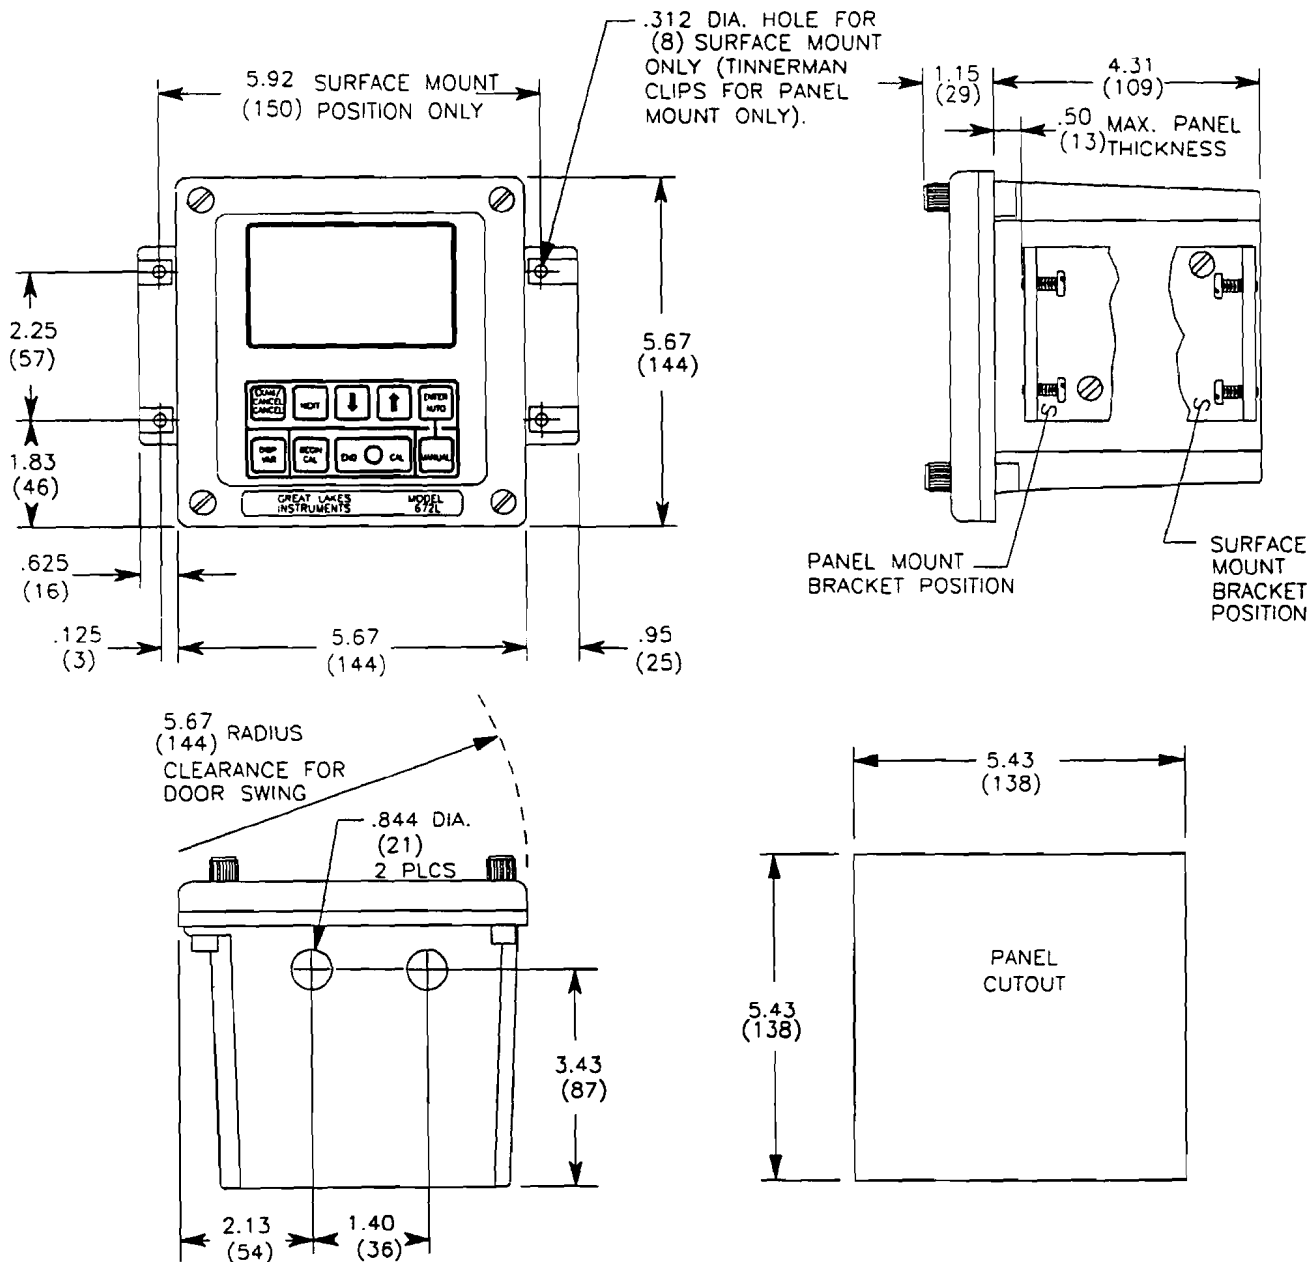
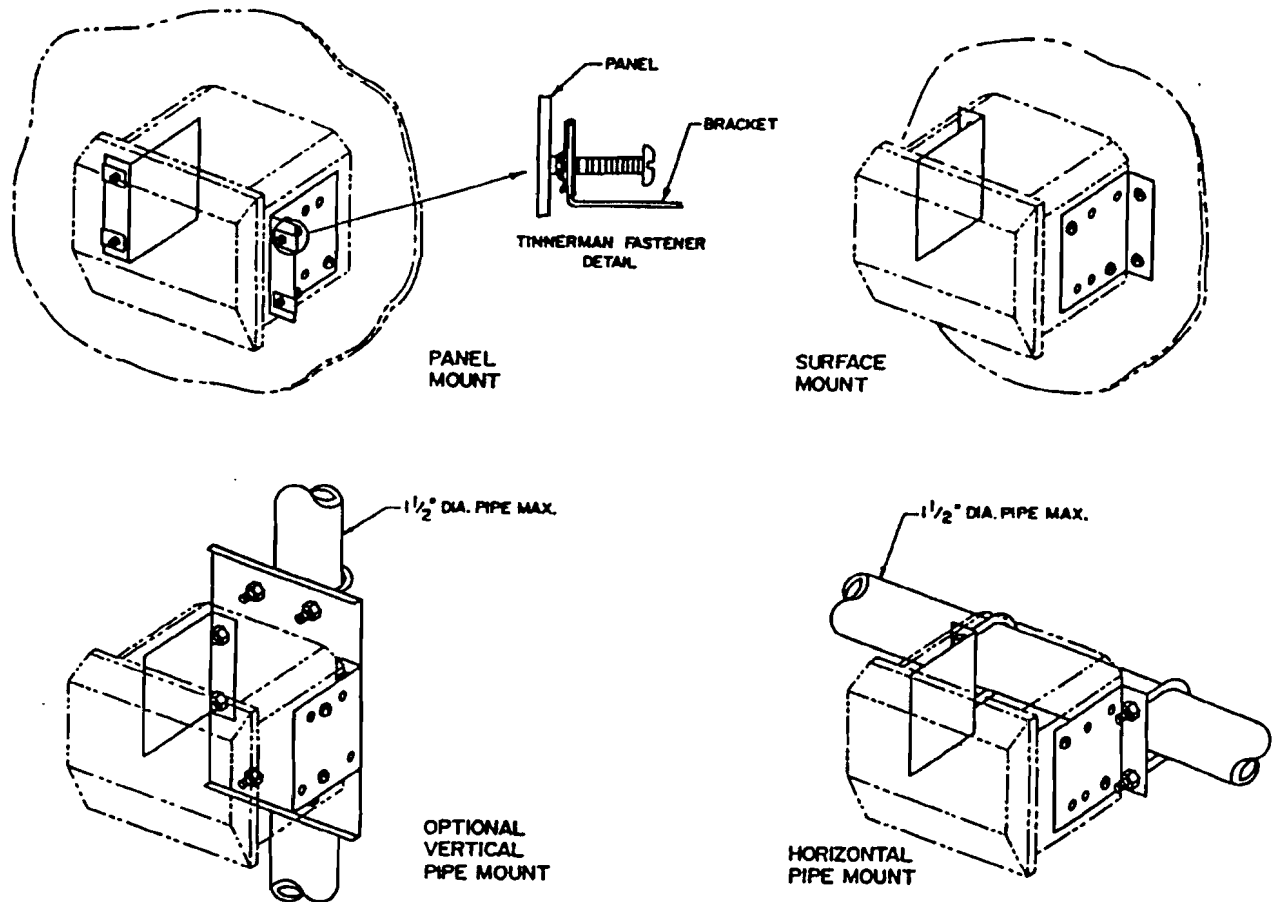

FIGURE 2-4 Model 672L Enclosure Outline
FIGURE 2-5 Model 672L Mounting Configurations
Refer to Figure 2-4 for enclosure and mounting dimension details. Figure 2-5 illustrates various mounting configurations. Use the two stainless steel brackets provided to panel, surface or pipe-mount the instrument. The bracket attachment configuration determines the mounting method.
1. Place Tinnerman fasteners on each mounting bracket as shown in Figure 2-5.
NOTE: Use appropriate mounting bracket holes (depicted in Figure 2-5 with screw heads) to properly position brackets.